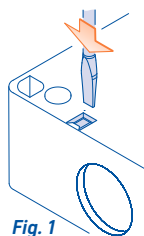

Fig. 1
- If it is necessary to make water drain holes, make them with the screwdriver on thinned place as shown on Fig. 1.